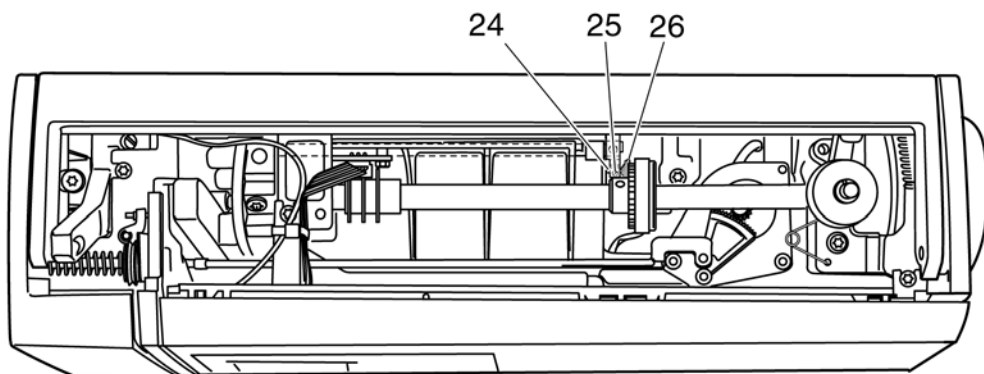

Fig. 6
- Re-position crank pin 24 with pull rod 26 sideways until the complete top and bottom feed moves easily (fig. 6).